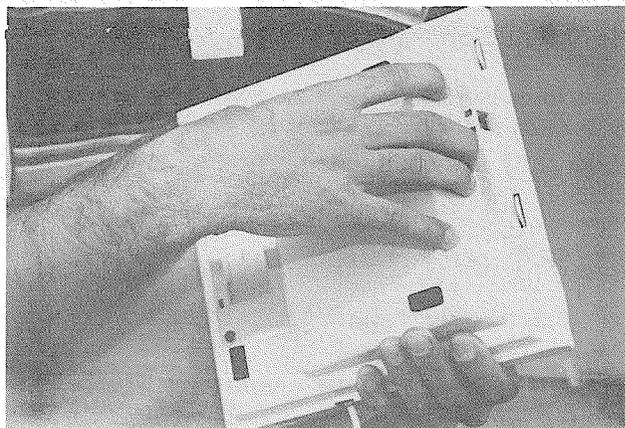

FIGURE 31—REMOVING EKT BASE
09.14 Locking tabs secure the base to the EKT. The direction in which the base is attached to the EKT determines whether it will be used as a desk unit or wall unit (it is factory-configured as a desk unit). Disengage the locking tabs by pushing downward on the base (Figure 31).